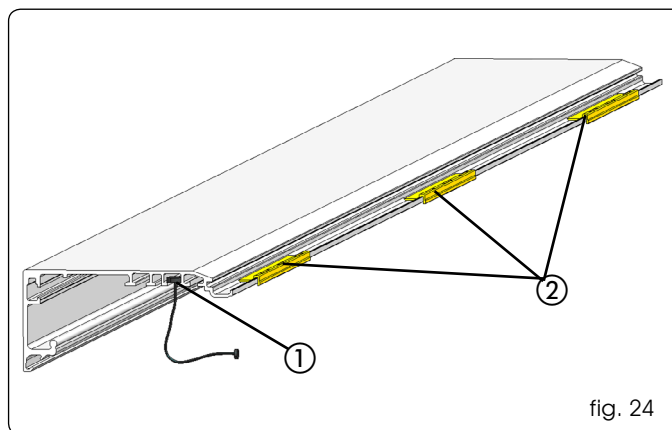

fig. 24
Check if the parachute cables are present, and, if necessary, secure them on the two ends of the support profile, housing the bigger end of the cable in the seats (Fig. 24 ref. ①).
Check if the three anti-vibration spacers (Fig. 24 ref. ②) are present, and, if necessary, insert them on the outer edge of the support profile, positioning them at the ends and centrally (for profiles of over 3 meters).